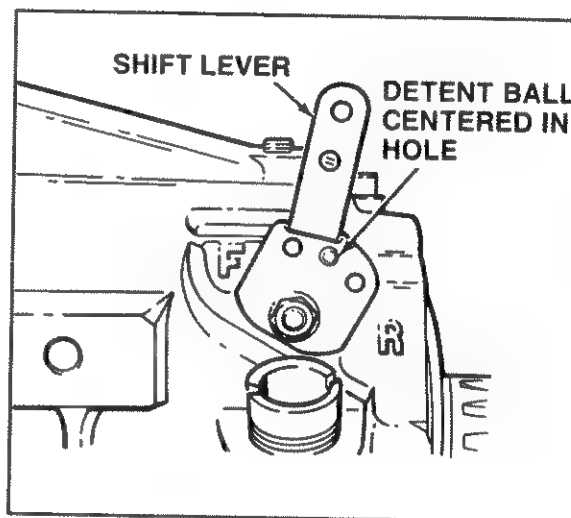

Figure 7A. Shift Cable Adjustment
- Adjust the shift cable so the holes in the shift lever are centered over the detent ball at each selector location. See Figure 7A.